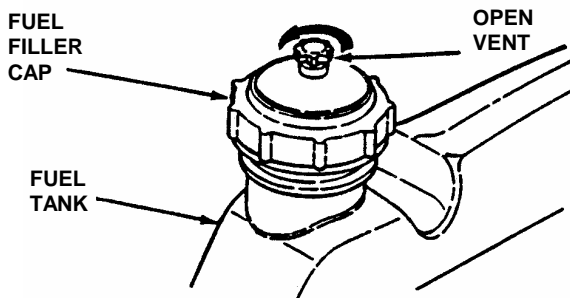

FIGURE 2.2
2.1.6. Add fuel to tank after pushing the Rear Engine Rider outside where fumes can dissipate. Make sure fuel filler cap is tight and vent is open after refueling. Refer to engine owner's manual for fuel specifications. See Figure 2.2.